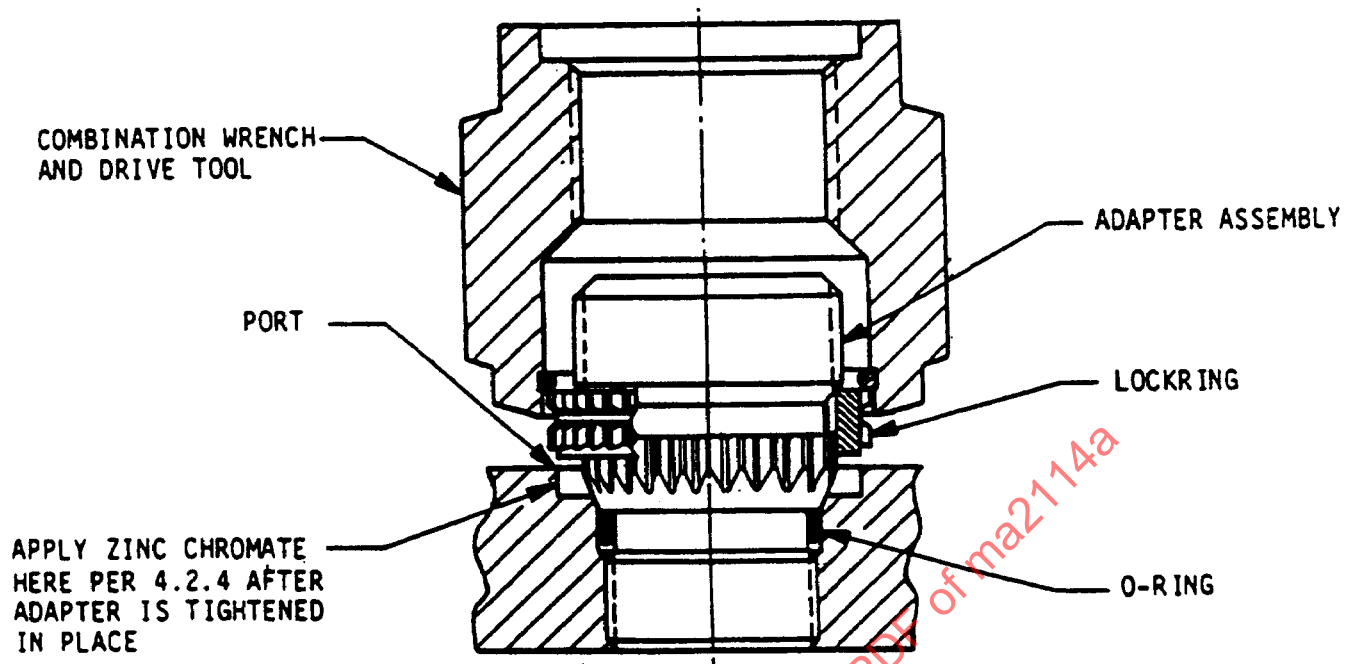

FIGURE 3 - Torquing Adapter Assembly
4.2.3 Using the applicable combination wrench and drive tool in Table II, engage the serrations of the tool with those on the external serrations of the adapter locking per Fig. 3. Place a torque wrench of the proper size over the hex of the wrench and apply a torque equal to the minimum value specified in Table II. Note the relationship of the serrations of the locking with respect to the prebroached serrations in the port. If they match, proceed to 4.2.4. If the serrations do not match the prebroached serrations in the port, continue to slowly torque the adapter toward the maximum value allowed in Table II until the serrations of the locking match the boss serrations. This shall normally take between 3 and 8 degrees of turning and the maximum value need not be reached if the serrations align themselves prior to that value. Do not exceed maximum torque values.